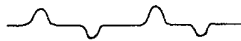
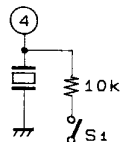

Figure 5
Figure 6
- Pin 4 is the ceramic oscillator pin. To make the oscillation waveform approach a sine wave, the oscillation level is controlled internally. Oscillation levels of 15 to 80 mVp-p at Pin 4 give the waveform shown in Figure 5. To stop oscillation, attach an external resistor as in Figure 6 and switch S1 on.